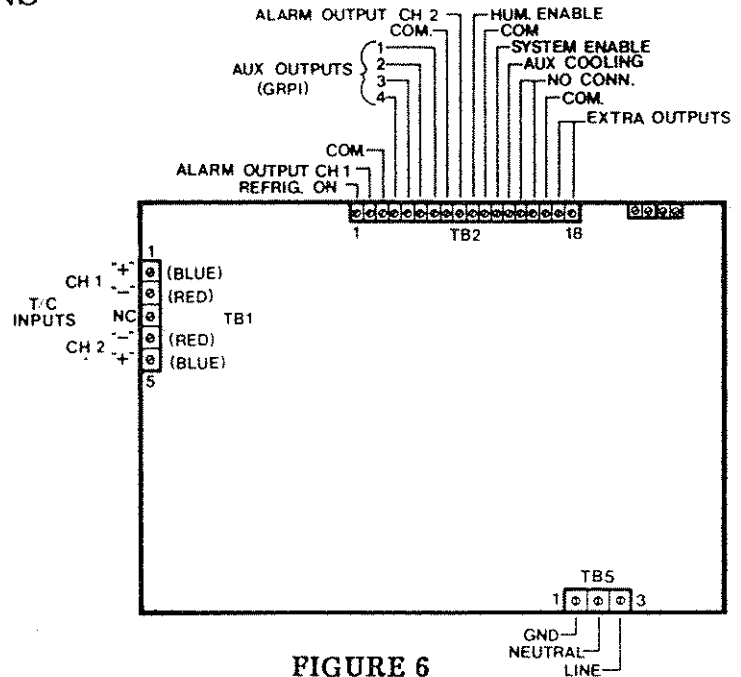

FIGURE 6
- TB1 Thermocouple Inputs** See Figure 6.
- TB2 Digital Input/Output** See Figure 6.
- TB5 Power Connections** See Figure 6.